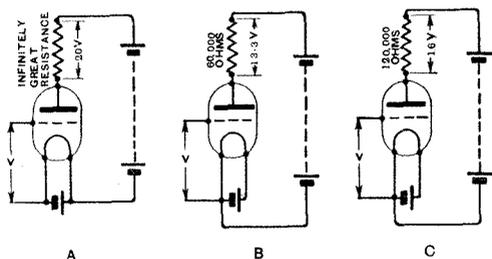

Fig. 1. Showing the amplification obtained when the valve has an impedance of 30,000 ohms and an amplification factor of 20.
The amplification factor referred to here is the ratio of the voltage set up in the anode circuit to the voltage applied to the grid, the anode circuit being designed to have the highest possible voltage set up in it (Fig. 1). This value of amplification factor is sometimes referred to as the "theoretical" voltage amplification factor of the valve. In an ordinary resistance-capacity coupled amplifier, for instance, the actual voltage amplification obtained might only be 60 per cent. of the theoretical value; an amplification of higher than 80 per cent. of the maximum is not usually obtained—not because it is impossible to secure a higher degree of amplification, but because it is not economical to do so. The amplification actually obtained would be equal to the voltage amplification factor of the valve
These facts will more readily be appreciated by referring to Fig. 1. In the figure we have a valve which, we will assume, has a theoretical amplification factor of 20, and an impedance (this property of the valve will be explained later) of 30,000 ohms. In Fig. 1A the resistance connected in the anode circuit has an infinitely great value of resistance. Therefore the voltage amplification actually obtained is equal to the voltage amplification factor of the valve. If  $v$  volts are applied to the grid, a voltage of  $20v$  volts are set up in the anode circuit. In Fig. 1B and 1C the anode resistances have values of 60,000 ohms and 120,000 ohms respectively. These are usual values for a valve with these characteristics. The actual amplification obtained is 13.3 for the arrangement of Fig. 1B, and 18 for Fig. 1C. That is, if 1 volt is applied to the grid of the valve in Fig. 1B, a voltage of 13.3 volts is set up in the anode circuit, or 18 volts with the arrangement of Fig. 1C.
**M**ANY readers may remember that some three years ago a description was published of a coil winding machine, and since that time these winders have been in fairly general use by amateurs for the construction of tuning coils. Some recent improvements have, however, been made, and the machine in its latest form is shown in Fig. 1.